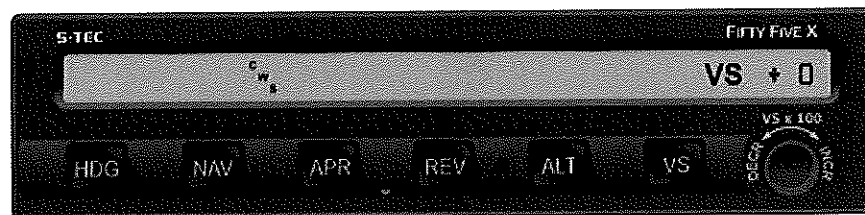

Fig. 2-8. AP Display, CWS Mode Armed or Engaged, 0 FPM (Pre-Flight)
11. Press/Hold CWS Switch to arm control wheel steering mode.	CWS, VS, and +0 (or ± 1) annunciations only appear on AP display, as shown in Fig. 2-8.